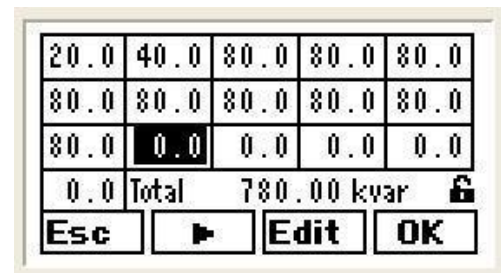

Fig.28.- Programming for a 11-step unit (step 12 = 0 kvar)
- **Number of steps:** The previous screens show 16 boxes. This means that Computer plus TF-C and TF-CDI can govern up to 16 capacitor steps with a static capacitor bank. When the unit has fewer steps, for example, 11 steps in a Computer plus T8, program step N+1 as zero (in the example on Fig. 28, step 12) and the regulator will then know the number of steps used (in our example, 11 steps).